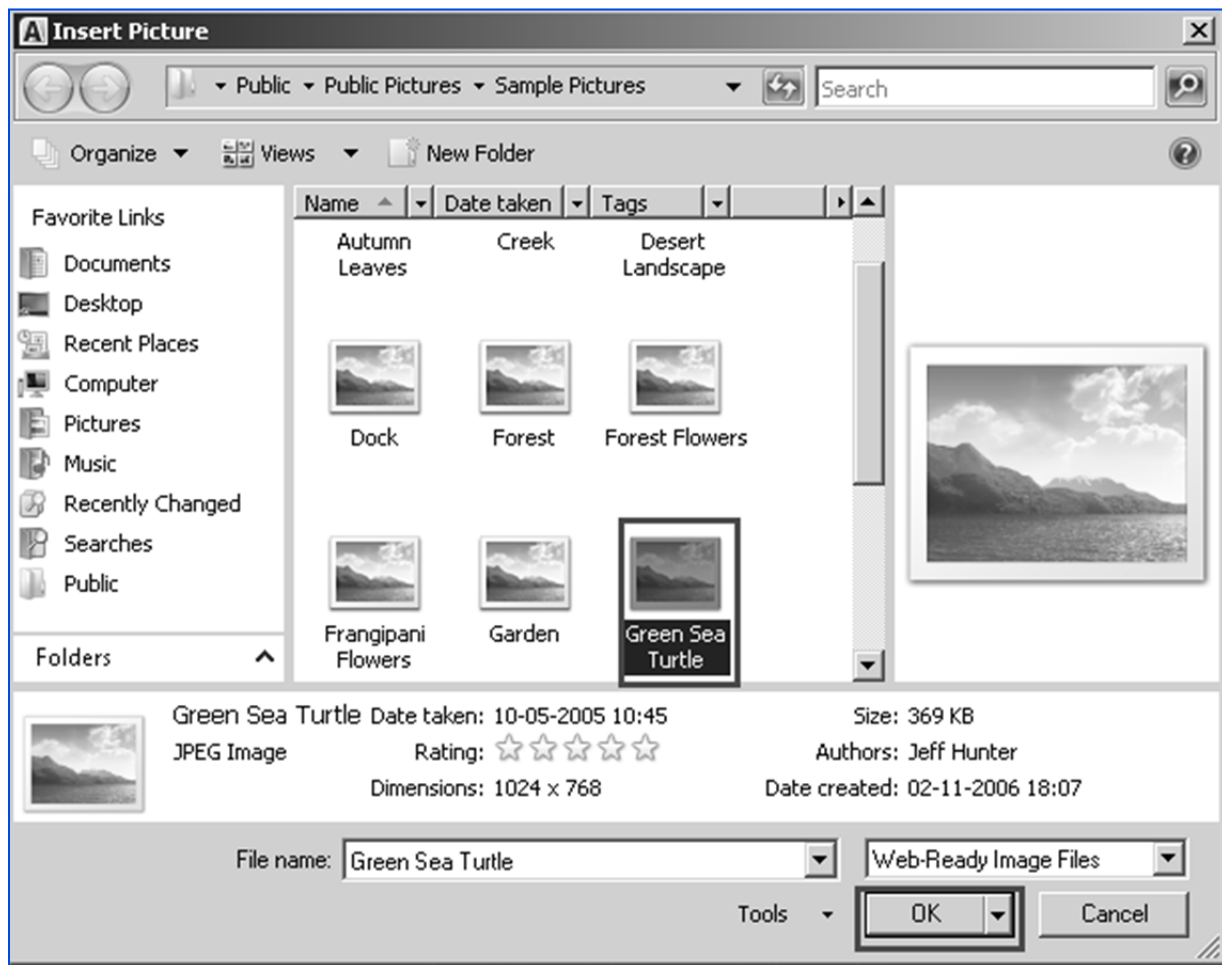

Fig. 2.2.5. Insert Picture window
3. The *Insert Picture* window appears. Browse for the picture to be inserted and click *OK* to close the window. The *Insert Picture* window is displayed in Fig. 2.2.5.